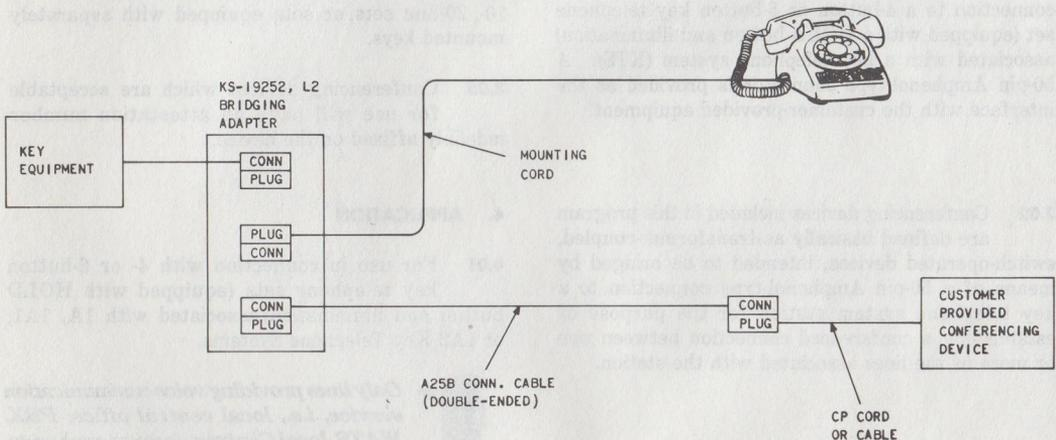

Fig. 1—Arrangement for Key Telephone Set with Plug-Ended Mounting Cord and Bridging Adapter
5.01 The method of providing the interface termination will vary depending on whether the telephone set is equipped with a plug-ended or spade-tipped cord, whether a 66E3-25 connecting block is in place, etc (Fig. 1 through 4).